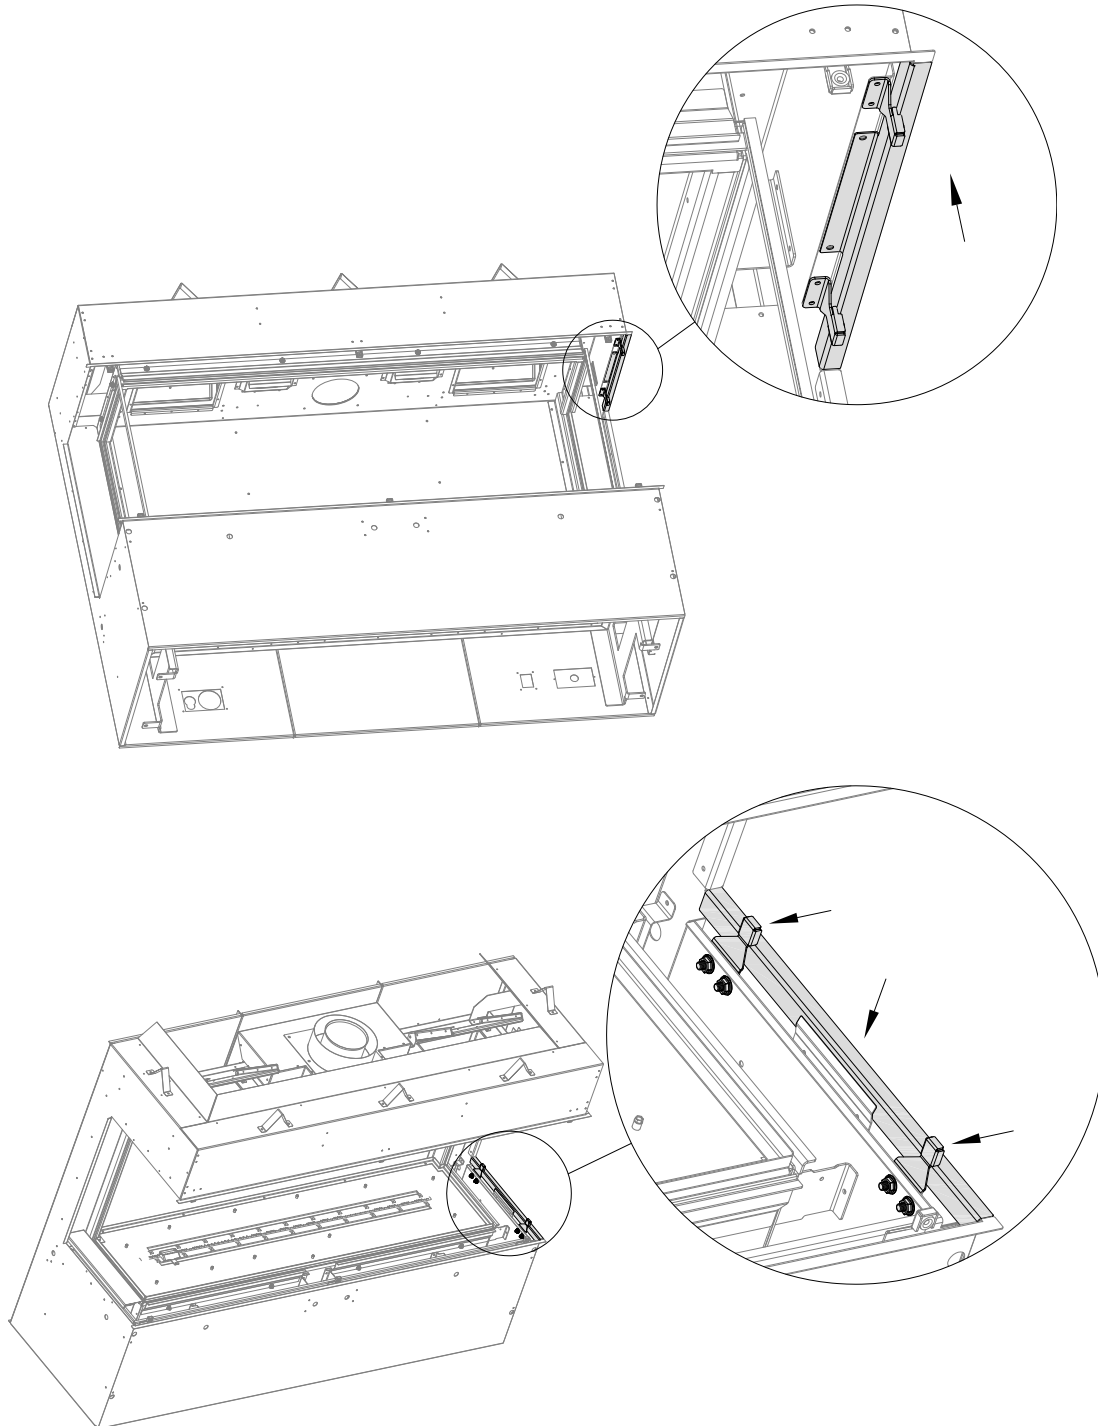

Figure 1.2 - Fireplace Conversion
2. Install the top finishing edge bracket. Make sure the bracket is centered and attach with (2) sheet metal screws. Install the (2) top magnet brackets with (2) sheet metal screws per bracket. See Figure 1.2
3. Install the bottom finishing edge bracket. This bottom bracket is pressure fit so push it in between the outer shell and the retention bracket. The bottom magnetic screen brackets have PEM studs and install them in the holes as shown in Figure 1.2. Secure with the supplied 7/16" nuts to the PEM studs.